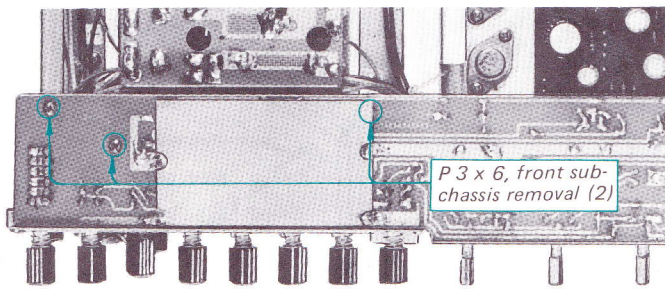

Fig. 2-3. Front subchassis removal (2)
3. Remove the three screws shown in Fig. 2-3.